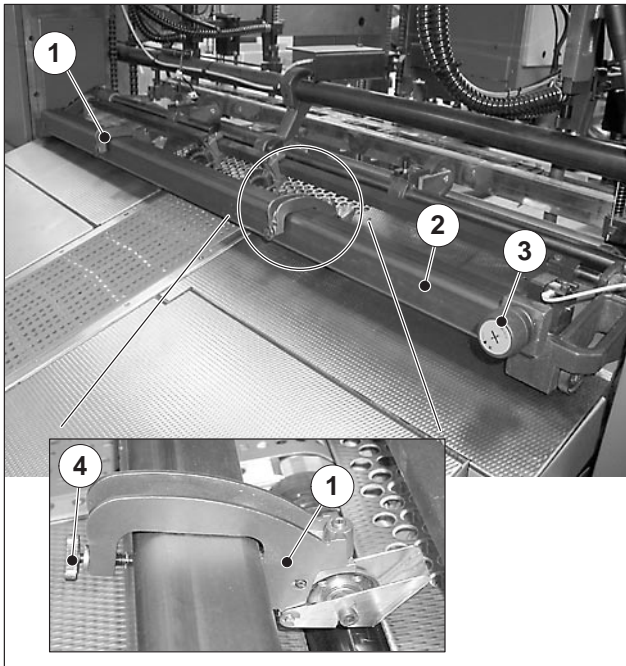

Fig. 56 Double sheet detector above the tape driving roller
The double sheet detector above the suction tape drive roller consists of a cross bar (Fig. 56/2) that can be equipped with 1...24 feeler rollers (Fig. 56/1). It detects
Adjust the tear-off detector/multiple-sheet detector at the control knob (Fig. 56/3). The control knob has a notch division of 1/100 mm.
2. Turn the control knob (Fig. 56/3) clockwise until the double sheet detector is just activated.
4. Turn the control knob (Fig. 56/3) anti-clockwise by the calculated number of notches.
2. Set the stock thickness on the control knob (Fig. 56/3) to minimum sheet thickness (turn the control knob fully to the right).